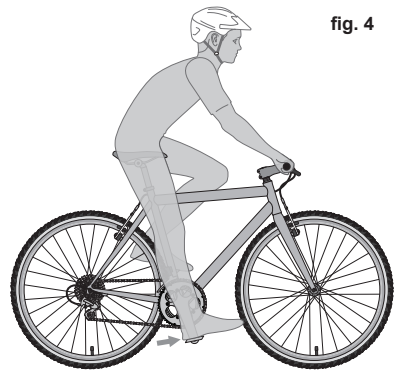

fig. 4
- 1. Up and down adjustment.** To check for correct saddle height (fig. 4):